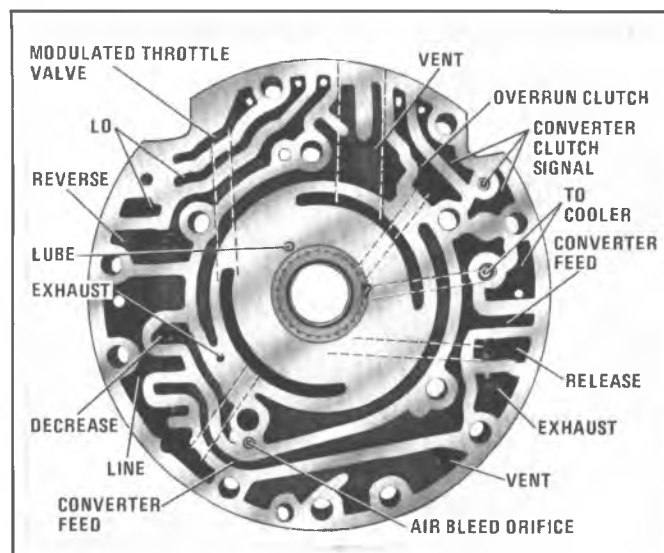

Figure 7A6-212 Pump Cover Assembly
1. Inspect for open oil passages (Figure 7A6-212).